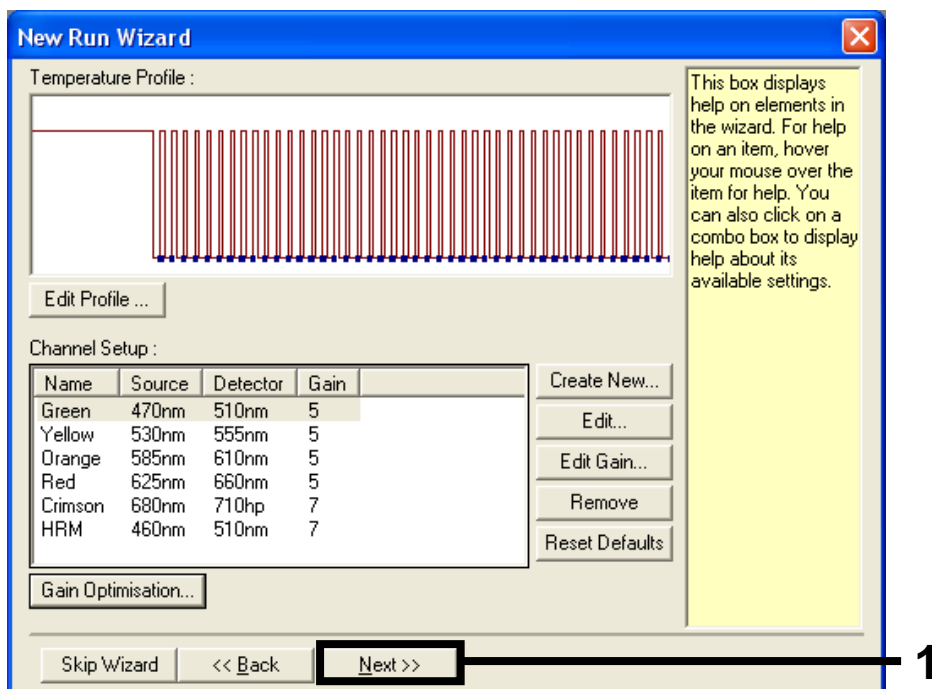

Figure 5. The “New Run Wizard” dialog box. 1 = “Next” button.
4. The next window allows editing of the temperature profile. No editing is required if the temperature profile has already been created according to the instructions in "Protocol: Creating a temperature profile", page 24. Click "Next" (Figure 5).